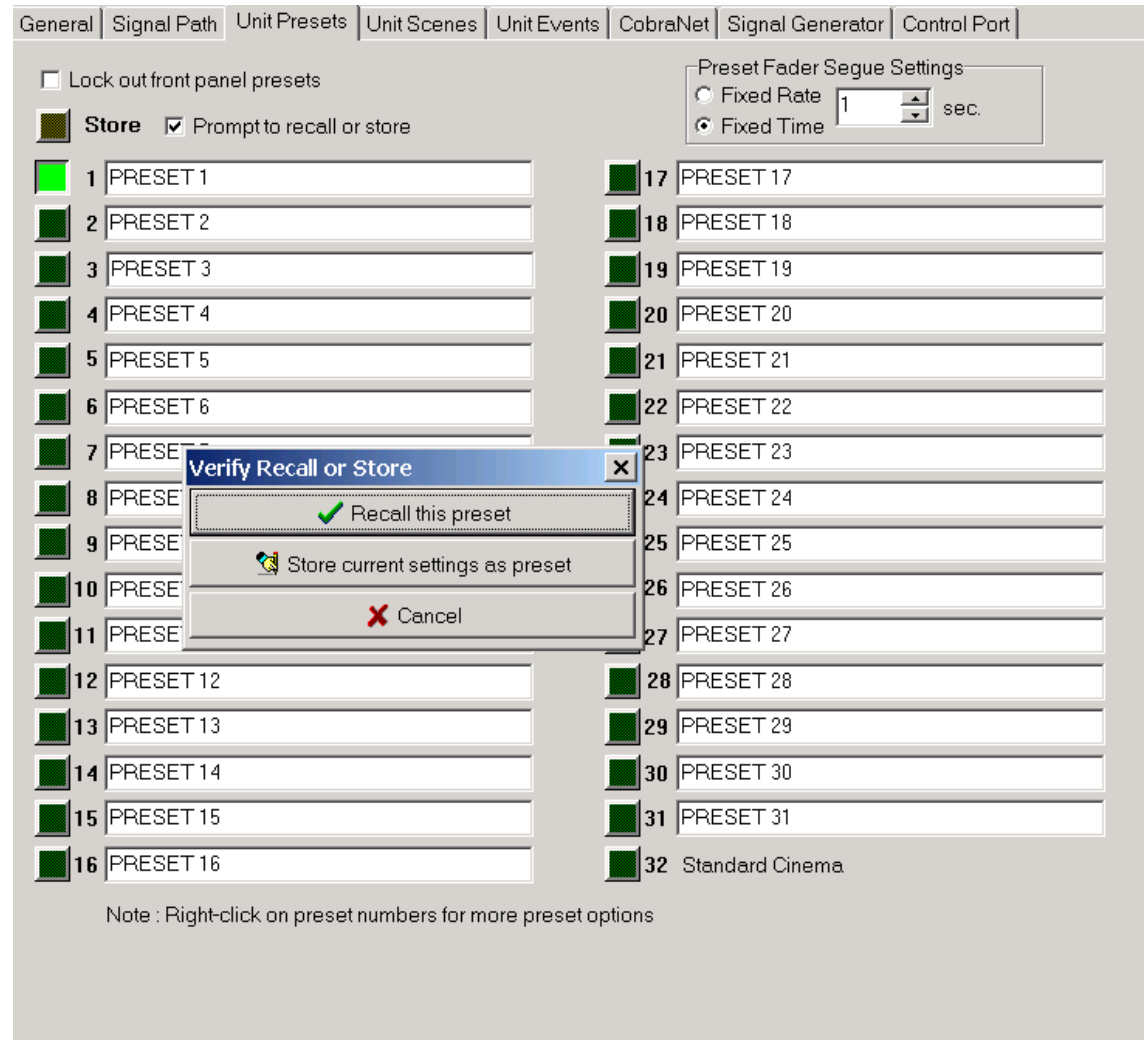

Figure 1.14 The Unit Presets Window
8. The processing functions appear. Click on the **Unit Presets tab** at the top. The Unit Presets window appears (Figure 1.14).